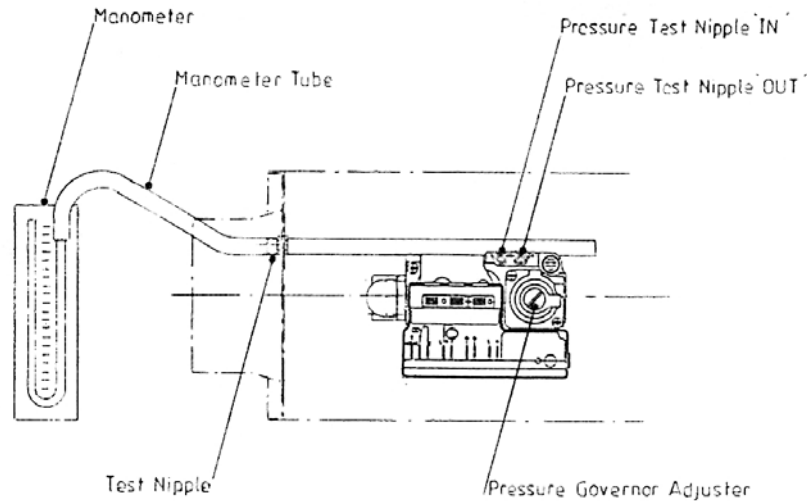

Fig. 19
5.3.2 Connect a manometer to the test nipple protruding from the rear panel of the Control Box (adjacent to the Air Inlet Adaptor) see Fig. 19.
5.3.4.1 Unscrew the sealing screw (two turns) of the Control Valve test nipple marked 'IN' and connect the free end of the manometer tube (permanently connected to the manometer test nipple inside the rear panel of the control box) to this test nipple (See Fig. 19). Close the control box door and secure with the two toggle latches.
5.3.5.1 Unscrew the sealing screw (two turns) of the Control Valve test nipple marked OUT and connect the free end of the manometer tube (permanently connected to the manometer test nipple inside the rear panel of the control box) to this test nipple (See Fig. 19). Close the control box door and secure with the two toggle latches.
5.3.5.3 In the event that the burner setting pressure is incorrect, switch off the electricity supply to the appliance and remove the cap from the integral pressure governor for the Control Valve. Close the control box door and switch on the electricity supply to the appliance to ignite the burner. Remove the plug from the boss in the control box door and insert a suitable screwdriver through the exposed hole in the box to locate the governor adjusting screw. Adjust the pressure by turning the pressure governor adjusting screw clockwise to increase or anti-clockwise to decrease the burner setting pressure. See Fig. 19.